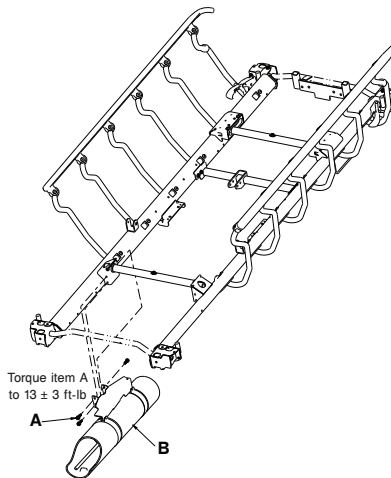

Figure 27 – Oxygen bottle holder replacement
- Using a 1/2" socket with a 3/8" drive extension and a 3/8" drive ratchet, remove the three hex washer head screws (A) that secure the oxygen bottle holder (B) to the litter frame on the patient left side (Figure 27). Save the hex washer head screws.